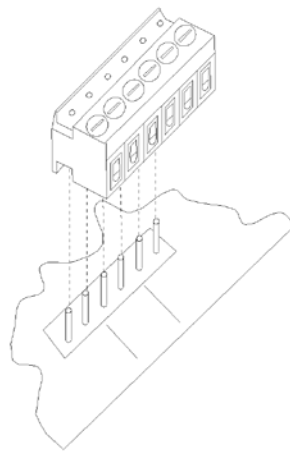

Figure 3-4. Quick-Disconnect Terminal Block and Connector Pins
1. Remove a quick-disconnect terminal block from the Intelligent Module board by grasping the terminal block by its sides and carefully pulling it away from the board. See Figure 3-4.